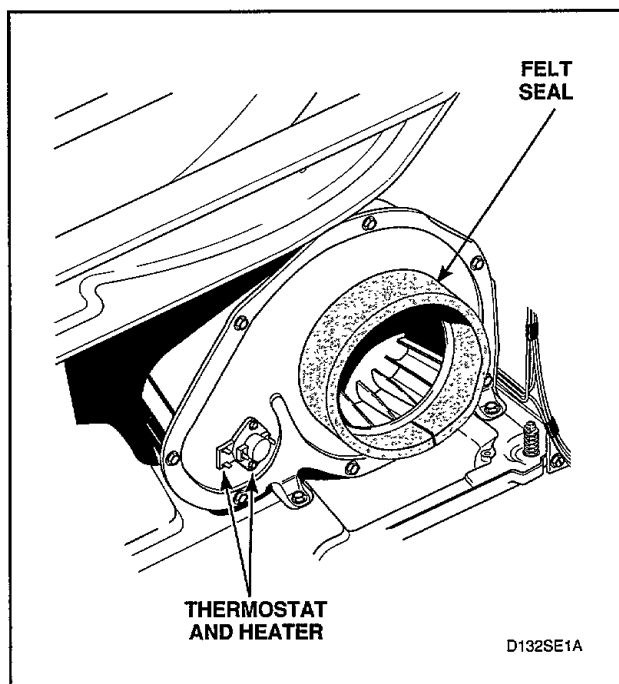
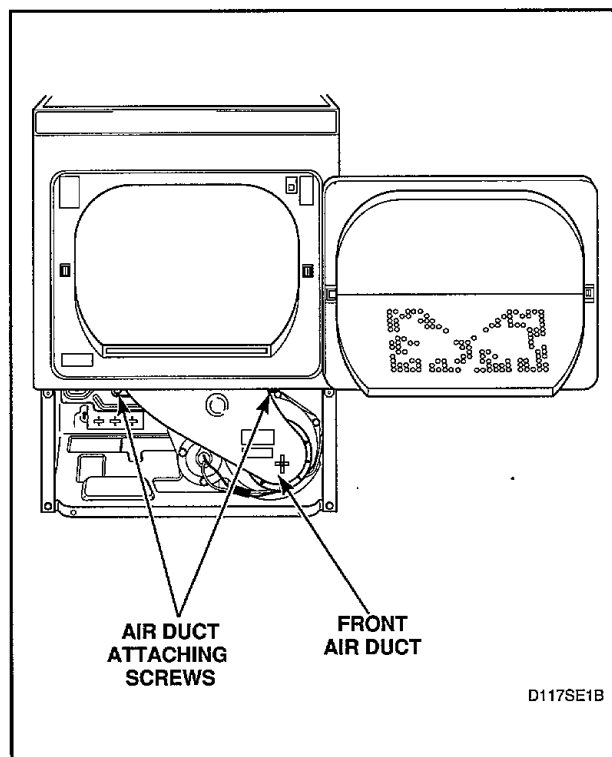

Figure 31
Figure 32
- Disconnect wires and remove thermostat attaching screws, *Figure 31*, and remove thermostat and heater.
- Remove two screws holding air duct to front bulkhead and remove air duct, *Figure 32*.
**IMPORTANT:** When reassembling, be sure felt seal on exhaust fan cover, *Figure 31*, makes air tight seal on flange of duct, *Figure 32*. If the seal is installed improperly, the airflow through the exhaust system will be restricted which can cause fire and dryer malfunction.